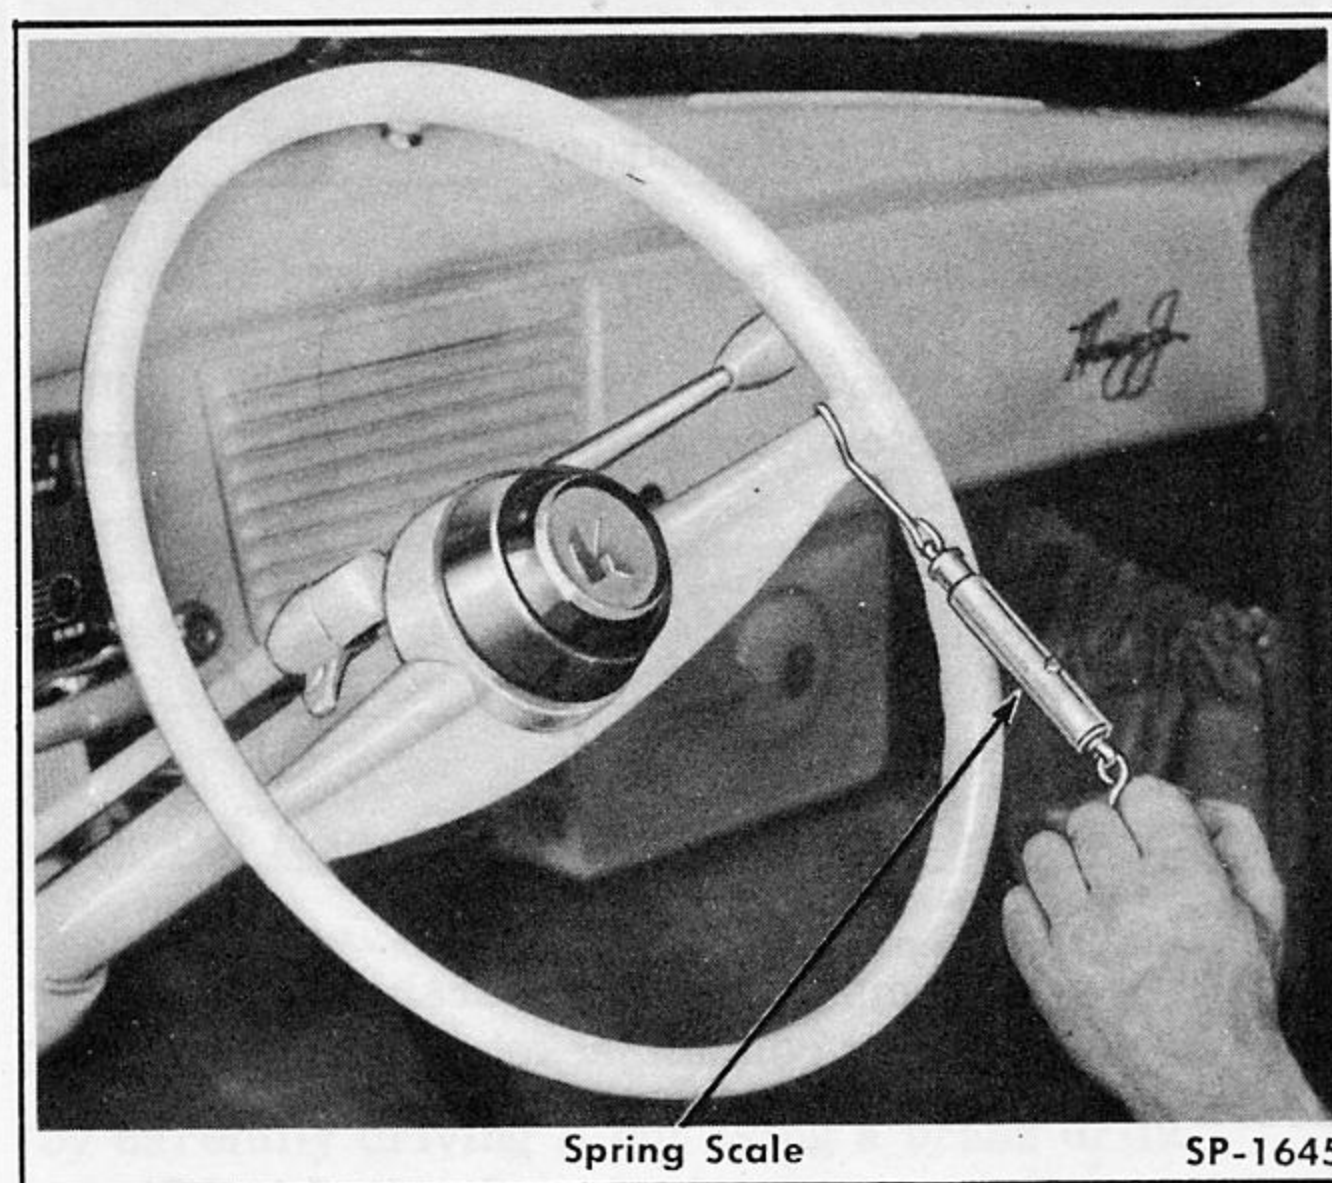

Fig. 193—Checking Steering Wheel Pull
4. Attach a spring scale to outer end of steering wheel spoke and, pulling at a 90 degree angle to the spoke, check force required to turn wheel. The pull should be from $1/4$ to $3/4$ pounds (Fig. 193).